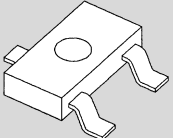

Figure 6
(See Figure 6)
- 2) Check that IC1 and IC2 are not installed backwards (see Figures 6 and 7). Be sure there are no solder bridges between the IC pins.